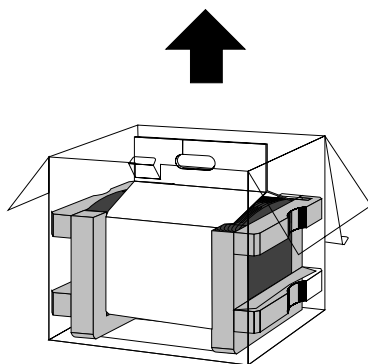

Figure 2-1 Lifting the IRIS Indigo Chassis Out of the Box
- You'll find the workstation and keyboard in the bottom of the shipping container. The chassis has a sling for lifting it out, as shown in Figure 2-1.
- Grasp the handles of the sling and pull the chassis straight out of the shipping container, as shown in Figure 2-1. Be sure to use your knees to lift, and keep your back straight.